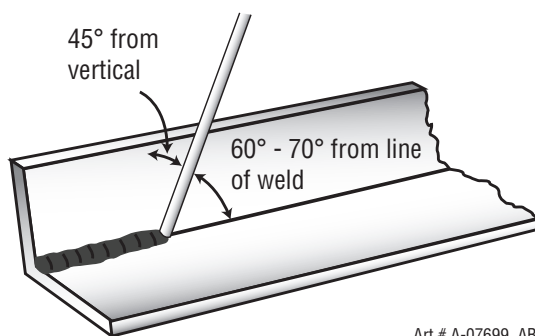
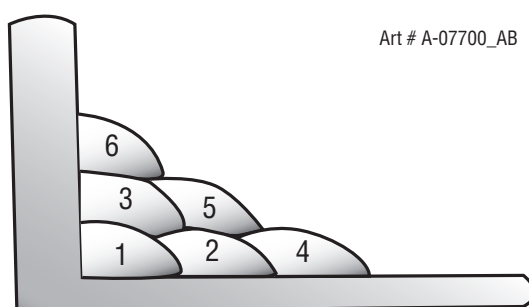

Figure 7-15: Electrode Position for HV Fillet Weld
Figure 7-16: Multi-runs in HV Fillet Weld
A piece of angle iron is a suitable specimen with which to begin, or two lengths of strip steel may be tacked together at right angles. Using a 3.2mm Ferrocraft 21 electrode at 100 amps, position angle iron with one leg horizontal and the other vertical. This is known as a horizontal-vertical (HV) fillet. Strike the arc and immediately bring the electrode to a position perpendicular to the line of the fillet and about 45° from the vertical. Some electrodes require to be sloped about 20° away from the perpendicular position to prevent slag from running ahead of the weld. Refer to Figure 7-15. Do not attempt to build up much larger than 6.4mm width with a 3.2mm electrode, otherwise the weld metal tends to sag towards the base, and undercut forms on the vertical leg. Multi-runs can be made as shown in Figure 7-16. Weaving in HV fillet welds is undesirable.